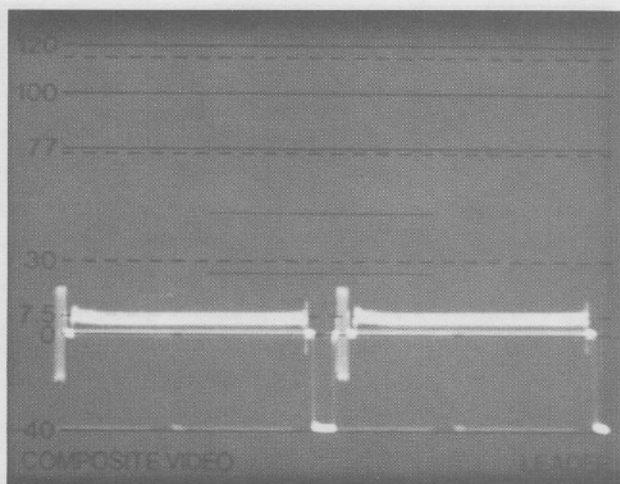

Figure 2-12. Lens capped waveform
4. Check the waveform as shown in Figure 2-12 for correct sync amplitude, burst amplitude and setup. Reset master pedestal on the camera if necessary for the correct 7.5 IRE setup level.